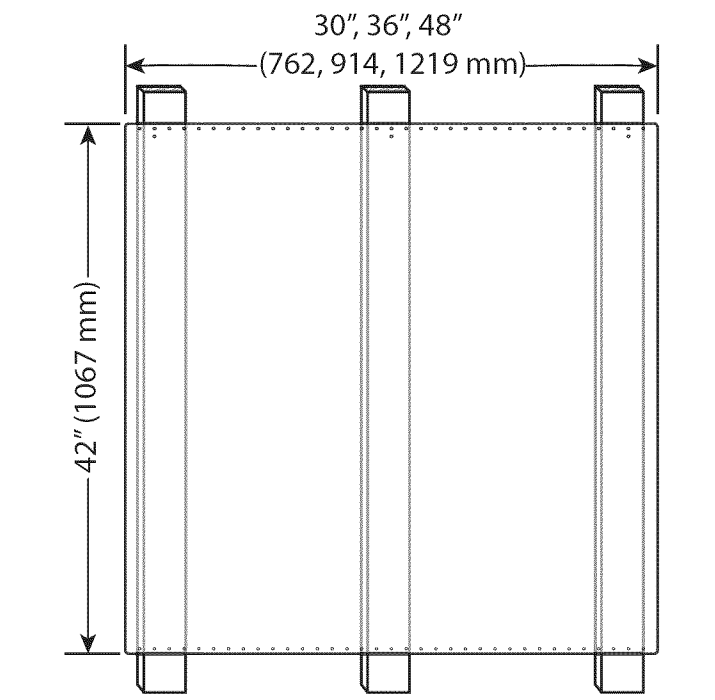

Figure 15: Backsplash Installation
3. Per each wall stud, use (2) 1" (25.4 mm) Phillips head screws to secure both the top and bottom of the Backsplash (see *Figure 15*). Space screws evenly across top and bottom of Backsplash.